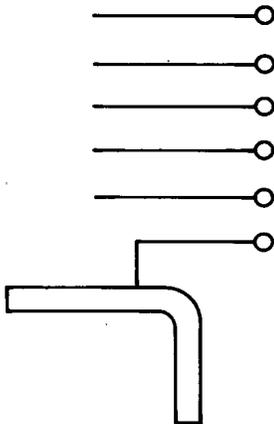

Fig. 4—455A Jack
**2.04 455A:** This multicontact jack (Fig. 4) is used in the J94711 patching cord test set for testing cords equipped with the 351-type plugs in Crossbar Dial Systems.